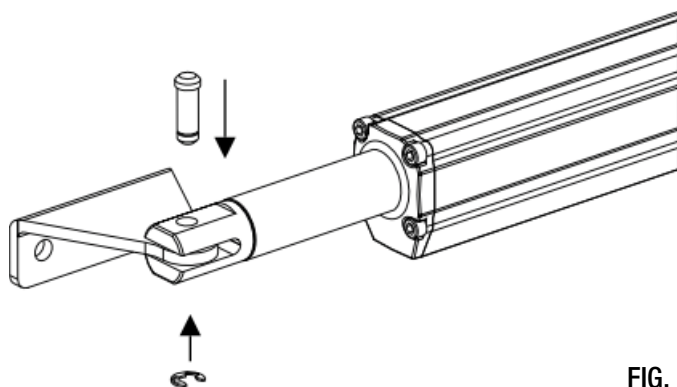

FIG. 7
1. Fit the anchor plate onto the piston (Fig. 7).